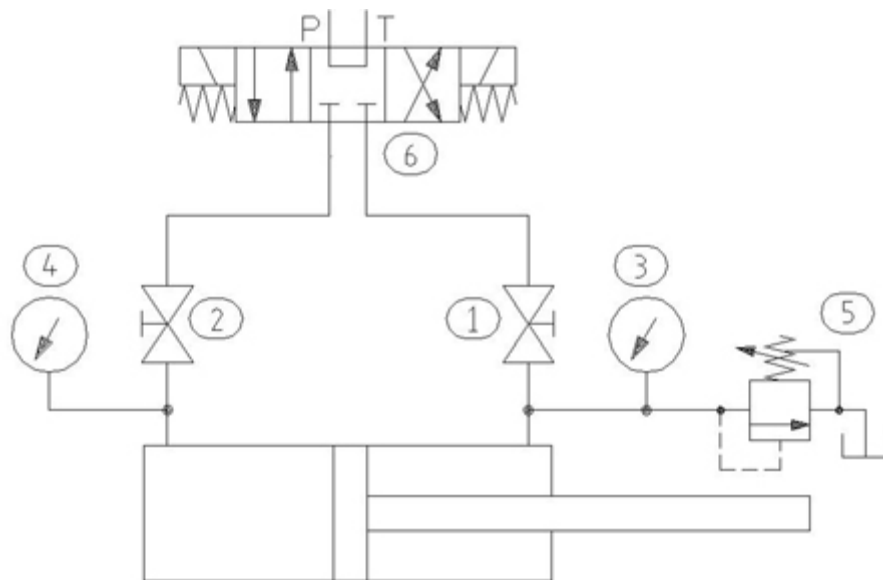

Figure 1. Hydraulic cylinder test circuit.
However a mid-stroke bypass test can be conducted hydrostatically using the intensification effect. The necessary circuit is shown in Figure 1 below.
3. Connect ball valves (1) and (2), gauges (3) and (4), relief valve (5) and directional control valve (6) as shown in Figure 1.
4. With ball valves (1) and (2) open, stroke the cylinder using the directional control valve (6) multiple times to remove all remaining air from both sides of the cylinder - take care not to **'diesel' the cylinder**.
5. Position the piston rod mid-stroke and close ball valve (2).
6. With the adjustment on the relief valve (5) backed out, direct flow to the rod side of the cylinder.
7. Increase the setting of relief valve (5) until the cylinder's rated pressure is seen on gauge (3).